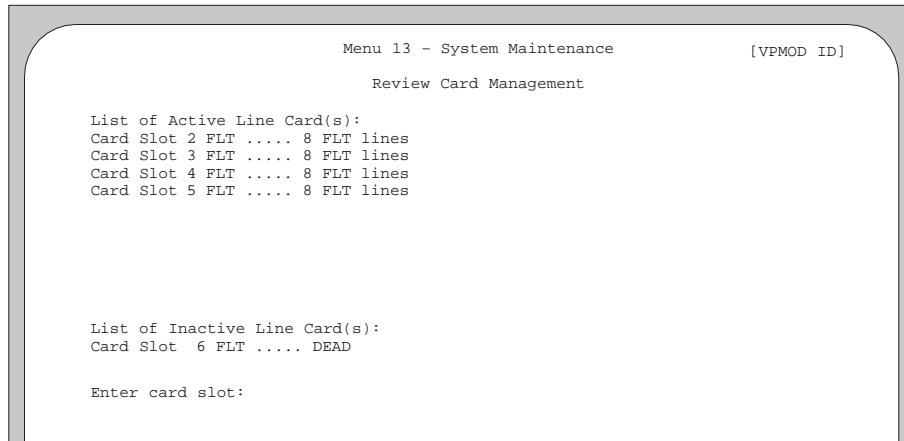

Figure 11-3. Example of Menu 13.11, Review Card Management.
1. From the SMT Main Menu, access Menu 13 – System Maintenance, and select option **II**. Menu 13.11, Review Card Management, appears, as shown in the example in Figure 11-3.